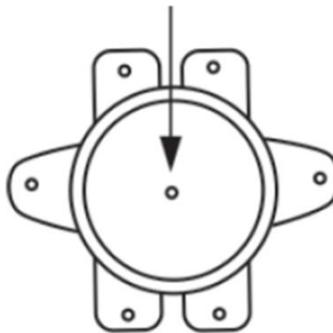

Fig 9
- Press the button located in the center of the thermal switch (round shape, near the heating element) until you hear a click, see Fig. 9;
6. To drain the water from the internal tank, you can use the drain hole (only for the FSL2 series) (you need to unscrew the plug that covers the drain hole). To drain the internal tank, use the safety relief valve: unscrew the screw of drain knob on the safety relief valve and move the drain knob to the up position — the hot water outlet tap must be open and the cold water inlet tap must be closed (see Fig. 9). Water will start flowing from the pressure relief port of the safety relief valve.